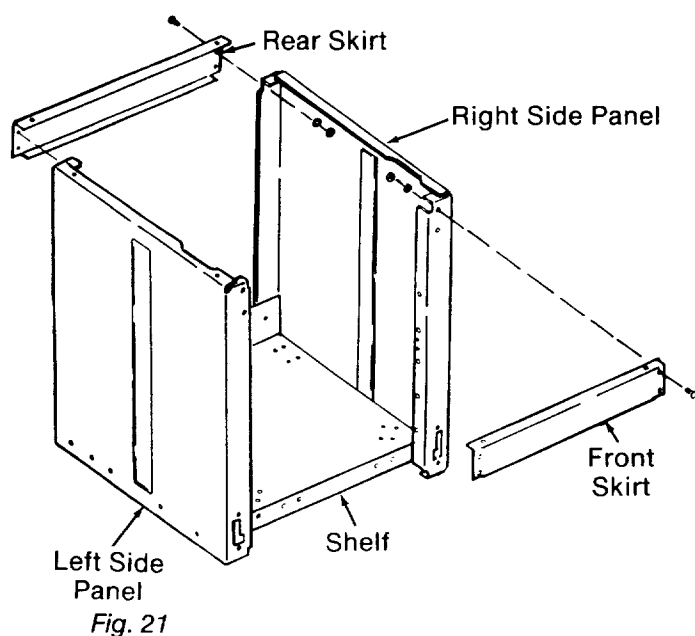

Fig. 21
20. Turn the *cabinet* right side up. Attach the *skirts* to the top of the *side panels*, with one on the front of the cabinet and the other on the back. (Figure 21)
21. Use eight truss head bolts, lockwashers, and hex nuts to hold the *skirts* in place...Hand-tighten. (Figure 21)